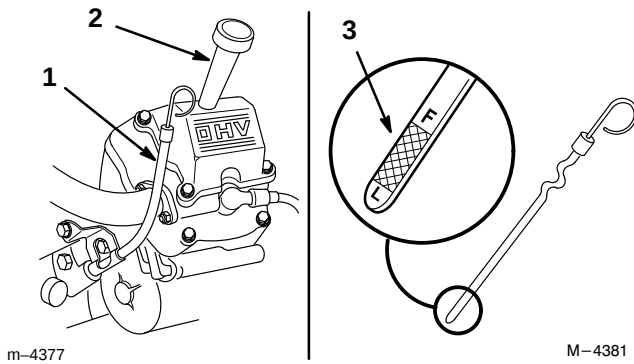

Figure 24
2. Clean around the oil dipstick so dirt cannot fall into the filler hole and damage the engine (Fig. 24).
3. Pull the oil dipstick out and wipe the metal end clean (Fig. 24).
4. Slide the oil dipstick fully into the filler tube. Pull the dipstick out and look at the metal end (Fig. 24). If oil level is low, slowly pour only enough oil into the filler tube to raise the level to the “FULL” mark.
5. Slowly pour approximately 80% of the specified amount of oil specified, page 37, into the filler tube (Fig. 24). Now check the oil level; refer to Checking Oil Level, page 38. Slowly add additional oil to bring to “FULL” mark on dipstick.